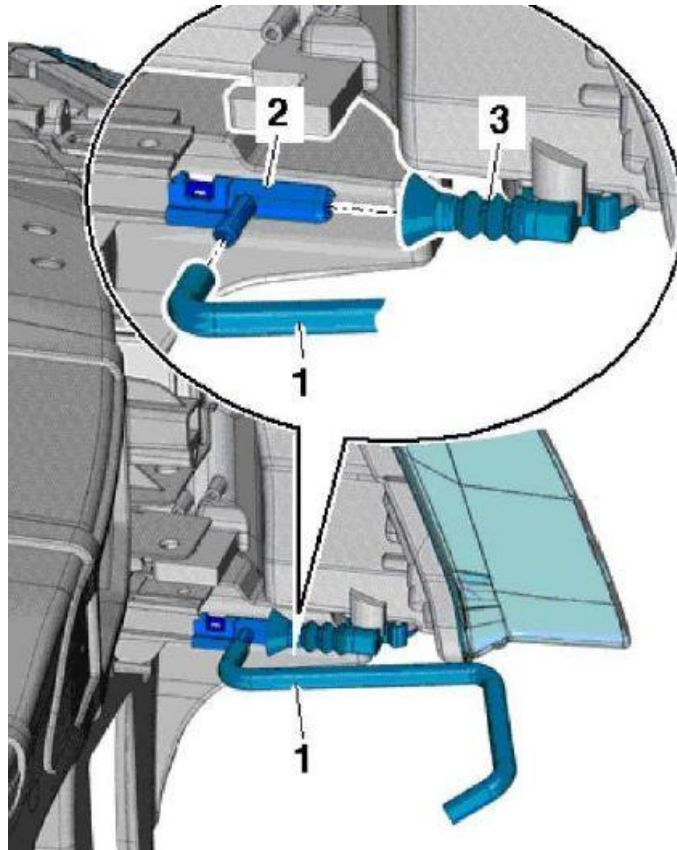

Figure 3. Illustration of the ventilation components.
2. Replace the ventilation hose (Figure 3, 1) and adapter (Figure 3, 3) on both sides and attach it to the mounting (Figure 3, 2). Use the part numbers indicated in the Parts table below.
When replacing the headlight, follow the headlight condensation repair instructions above using a new ventilation hose (Figure 3, 1) and adapter (Figure 3, 3) according to the Parts table below. Route the new ventilation hose behind the bumper carrier.
When replacing the headlight, follow the headlight condensation repair instructions above using a new ventilation hose (Figure 3, 1) on both sides according to the Parts table below. Route the new ventilation hoses behind the bumper carrier.